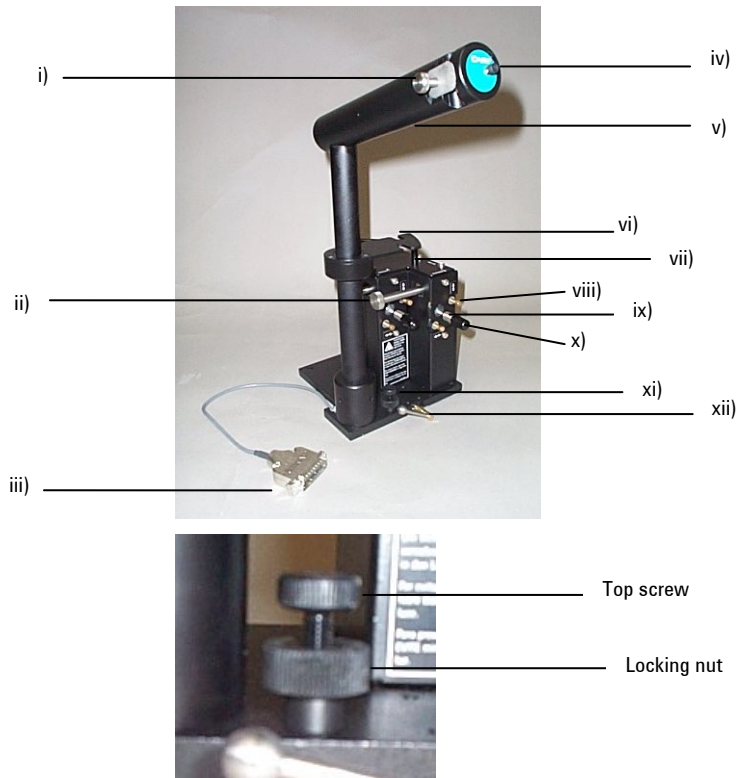
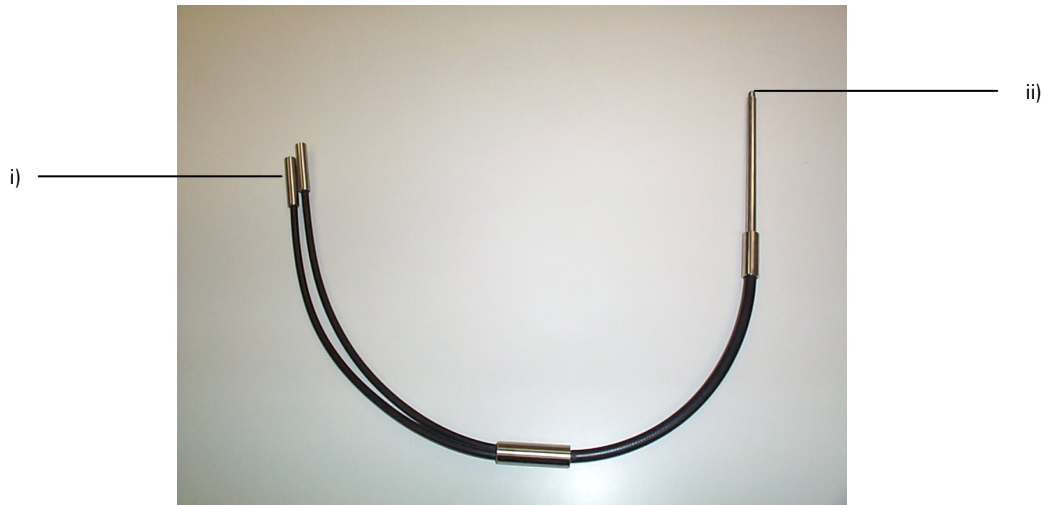

Figure 1. Fiber Optic Dip Probe Coupler accessory.
Figure 2. Fiber Optic Dip Probe. i) Connector ends. ii) End to which probe tip is attached.
When handling the Dip Probe Coupler, avoid placing fingers or thumbs in the coupler entrance, as they will touch the flat mirror. Always lift using the handle (Figure 1 vii).
- 4 Ensure that the fastening lever (Figure 1 *xii*) is in the open position (i.e., to the left). Rest the accessory at the front of the sample compartment in order to allow access to the D-shaped 25 pin port at the left side of the rear sample compartment wall. Connect the cable plug (Figure 1 *iii*) to the port.
- 6 Adjust the stabilizing screw on the accessory base (Figure 1 *xi*), to stabilize the accessory. To do this, use your fingers to screw the top screw (Figure 1 *Insert*) clockwise until there is no side-to-side movement, then tighten the locking nut to lock the accessory into this position.
- 7 To connect the short Dip Probe (see Figure 2) to the coupler accessory:
- a Carefully remove the protective plastic plugs from the two connector ends (Figure 2 *i*) of the dip probe.
- b Loosen the holding screws (Figure 1 *v*) on the Dip Probe accessory by turning them counterclockwise.
- c While supporting the end of the probe to which the tip will be attached (see Figure 2 *ii*), carefully insert the two connector ends (Figure 2 *i*) of the probe into the two key holes (Figure 1 *ix*) in the coupler accessory. Ensure that the metal pins are pointing directly upwards. (It does not matter which connector end is inserted into which slot.) Push the ends as far as they will go so that the face on the end of each connector presses up against a metal stop.
- e Screw the required probe tip onto the end of the dip probe (see Figures 2 *ii* and 3). You can use either a 10 mm tip or a 20 mm tip. They are both available as a kit.
- i. Loosen the clamping screw on the side of the coupler arm (Figure 1 *i*).
- g Place the two branches of the lead neatly behind the lead guides (Figure 1 *vi*).
- 5 To maximize the "Int" (intensity) reading in the top left corner of the screen (hence the amount of light reaching the detector), you may need to turn the gold adjusters (Figure 1 iii).
- 6 Once you have maximized the intensity using the adjusters, the coupler is satisfactorily aligned. Replace the front panel, close the lid and close the Align application. Clamp the probe in the vertical stand, as you did in Step 7 (f) of Installation, and re-attach the liquid probe tip (Figures 2 iii and 3).
- 2 Dip the probe into the sample and press the Remote Read button (Figure 1 iv) to start the data collection.